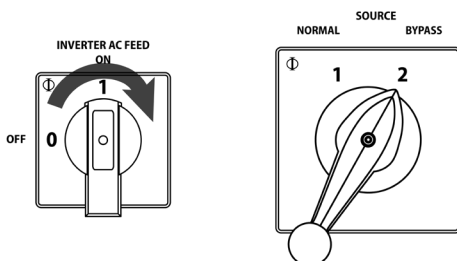

Figure 20. Turning on AC FEED
Step 1. Turn INVERTER AC FEED switch or breakers to position 1 (*ON/CLOSED*). See Figure 20.